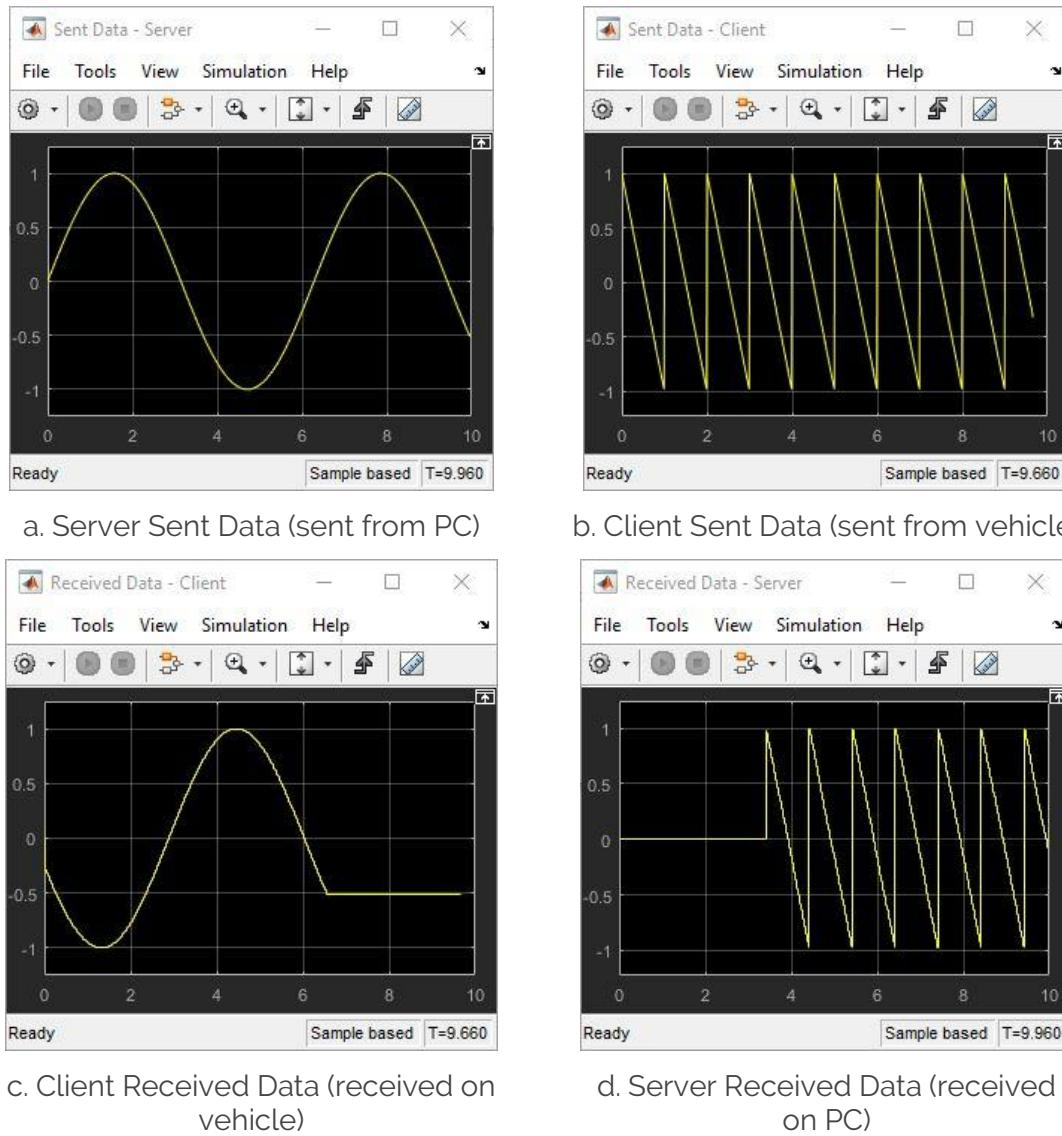

Figure 5: Sent and Received Data scopes in the Basic TCP/IP Communications Demo
10. The **Received Data** and **Sent Data** scopes in both models should display data as shown in Figure 5 below. The Server sends a sine wave (Figure 5a), and the Client receives this (Figure 5c). The Client sends a sawtooth wave (Figure 5b), and the Server receives this (Figure 5d).